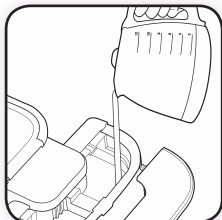

Figure 10
- 2 You can also pour water directly into the reservoir through the back lid by sliding the rear reservoir lid back and pour water. (Figure 10)